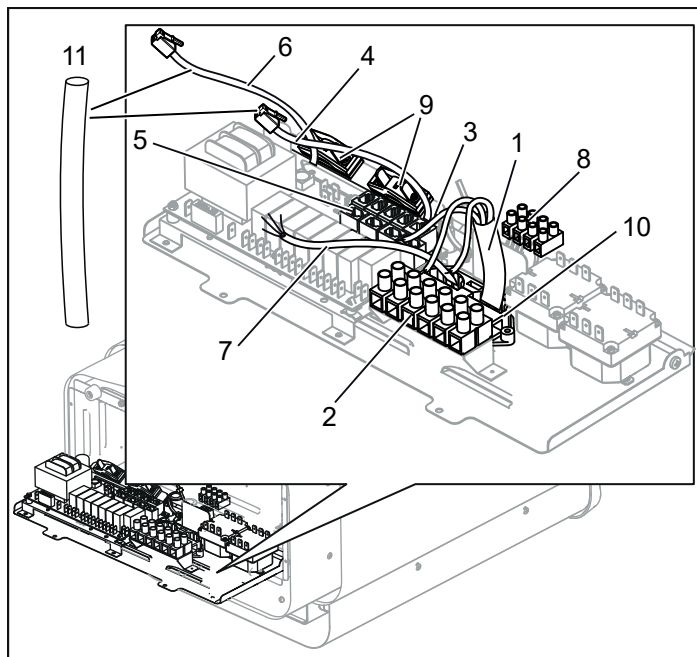
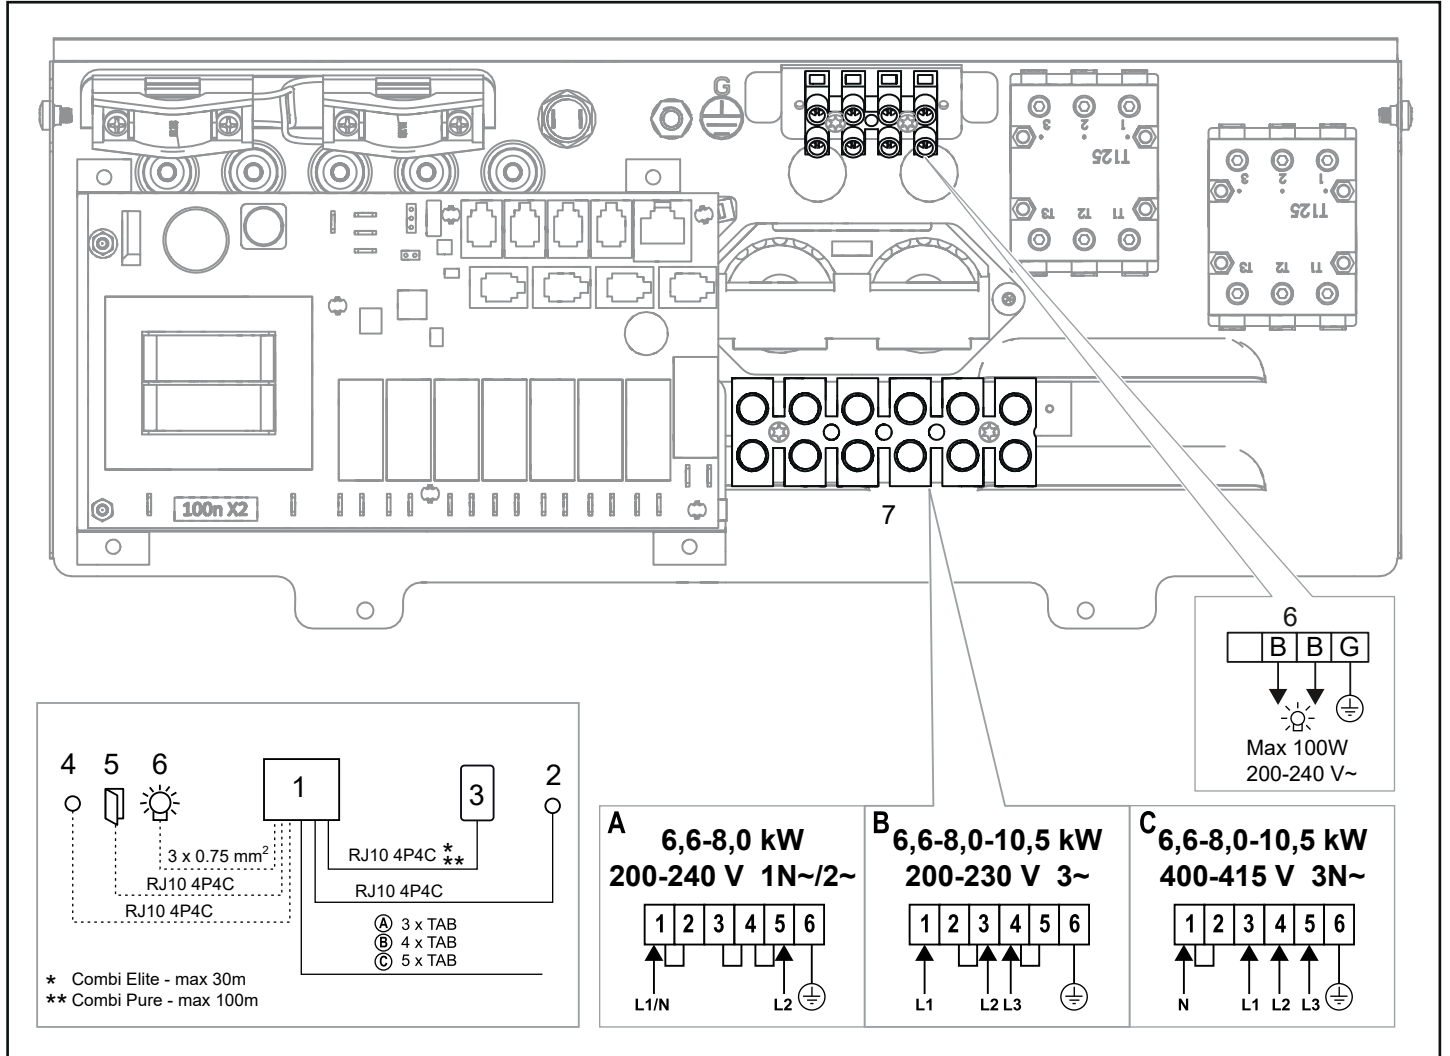
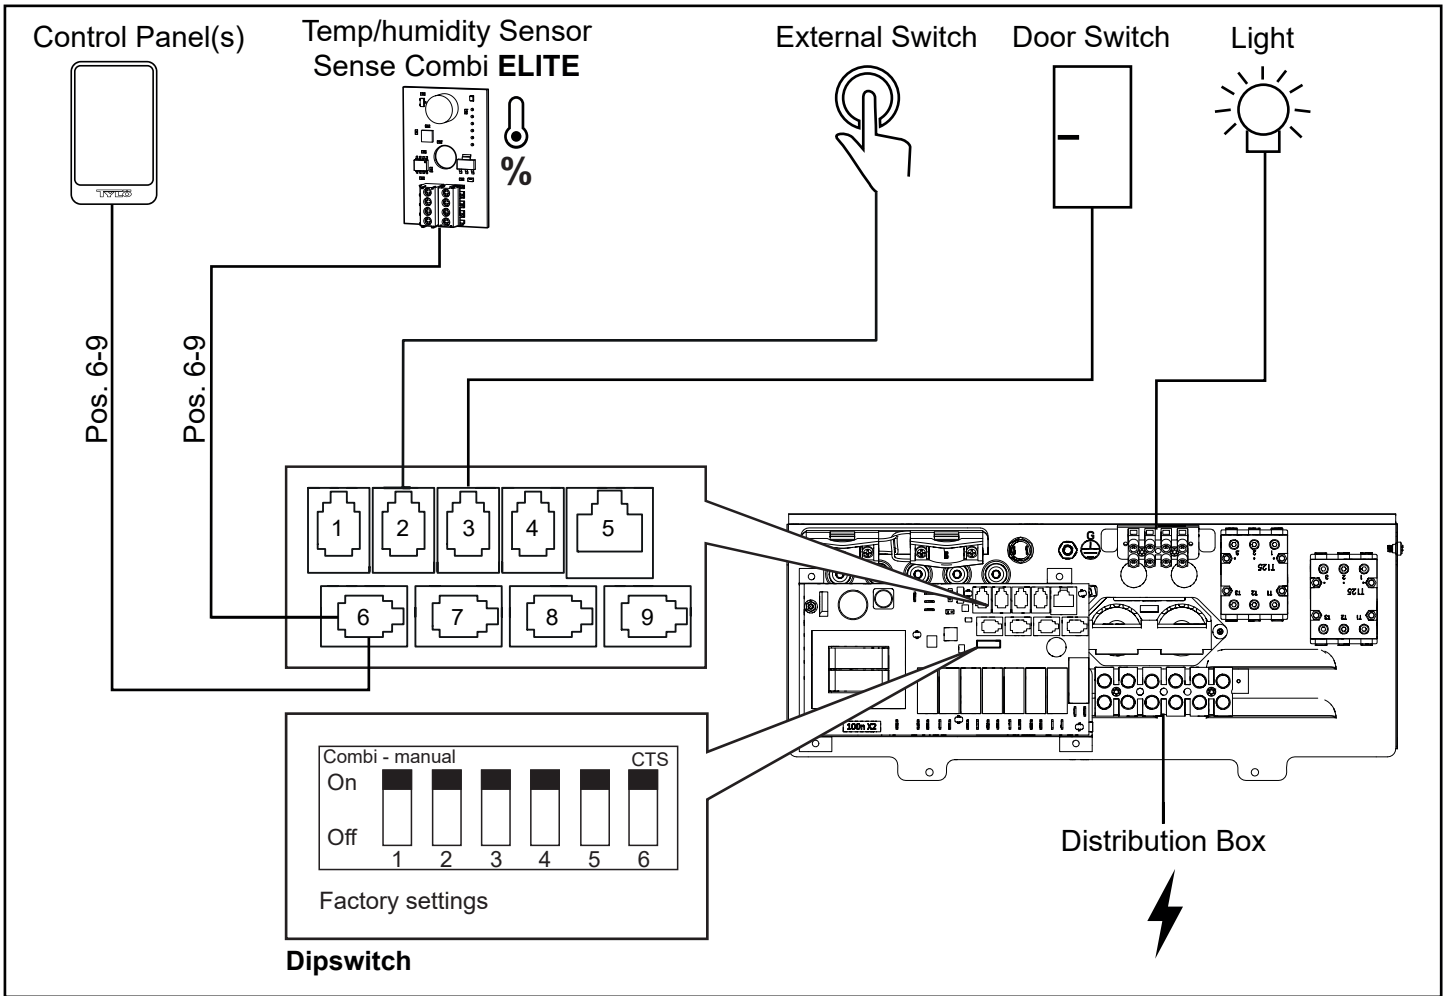
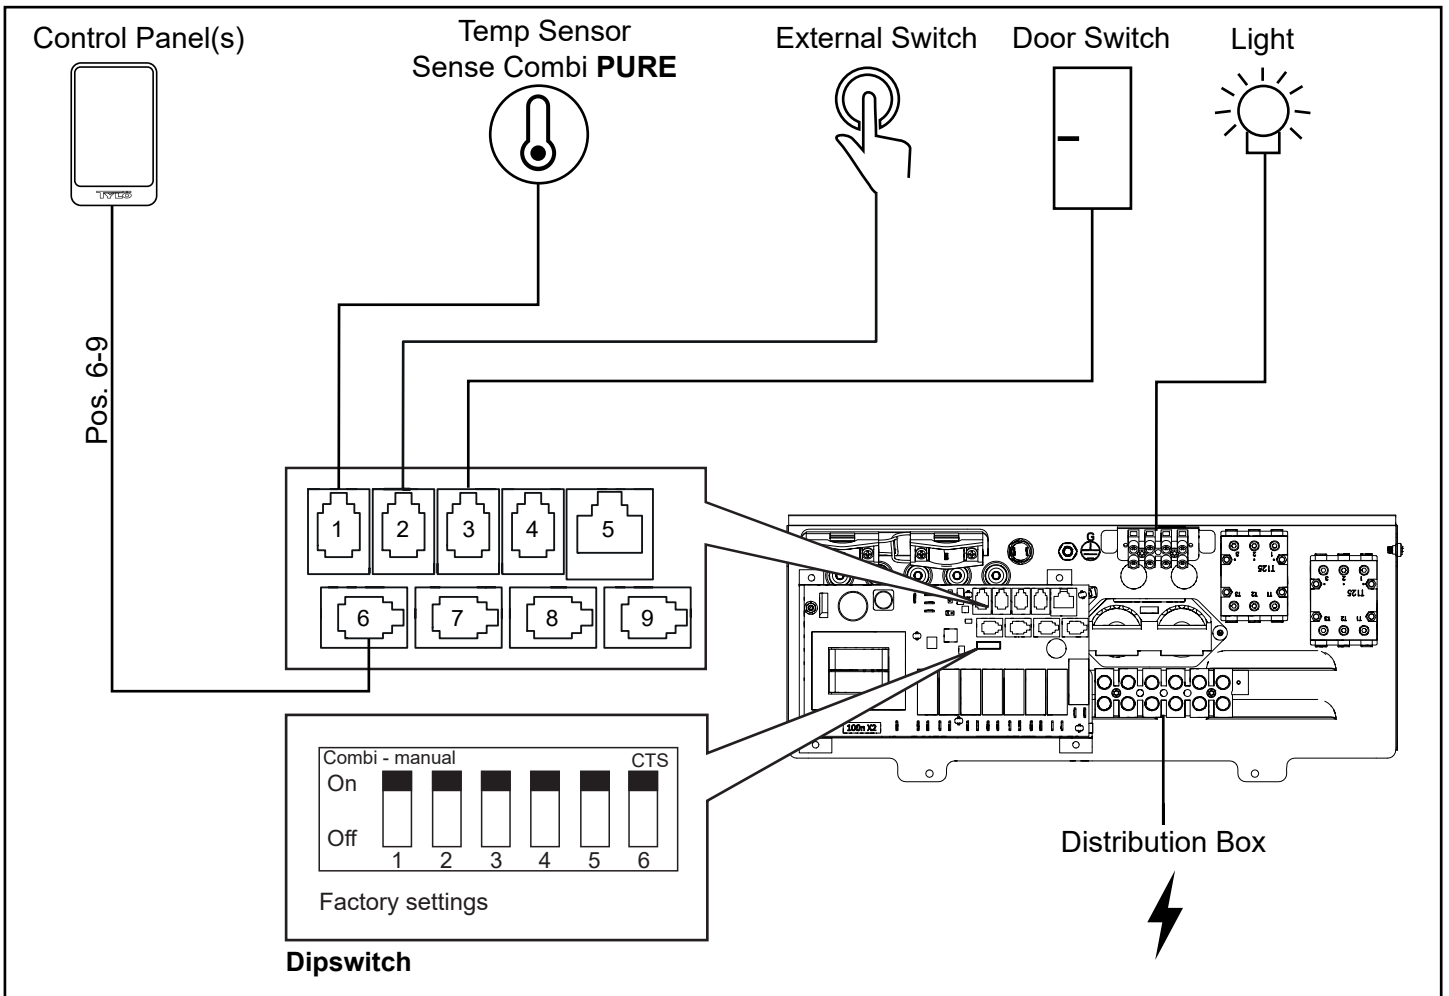

Figure 10: Circuit board
Figure 17: Wiring diagram
Figure 19. Schematic diagram of installation Sense Combi Elite
Figure 20. Schematic diagram of installation Sense Combi Pure
4. Connect the electrical cable (see Figure 10) according to the wiring diagram (see Figure 17).
5. Run the cables for the control panel and the temperature sensor through the cable grommets (see Figure 10). Connect the control panel cable to one of the four RS485 contacts (positions 6-9) (see Figure 19, 20).
6. **Combi Pure:** Connect the sensor cable to the NTC contact on the circuit board (position 1) (see Figure 20). **Combi Elite:** Connect the humidity- and temperature sensors cable to one of the four RS485 contacts (positions 6-9) (see Figure 19).
7. Connect the light cable (if relevant) (7), see Figure 10, according to the wiring diagram Figure 17.
Contact Tylö Customer Service before connecting to voltages or numbers of phases that are not listed in the wiring diagram Figure 17.